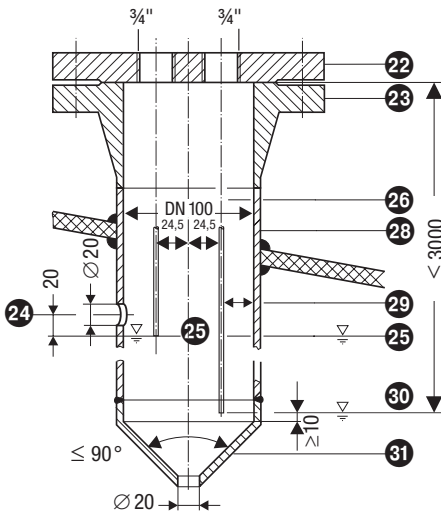

Fig. 18 Protection tube (provided on site) if electrode is used as internal water level-limiter combined with water level control or high water level alarm
- **One** level electrode NRG 1...-50 can be installed together with one GESTRA level electrode, one level switch or transmitter for water level control and high level alarm in one single protection tube or level pot (inside diameter 100 mm). **Fig. 18**. If the electrode NRG 1...-50 is installed inside the vessel, it must be at least 40 mm away from the upper vent hole.